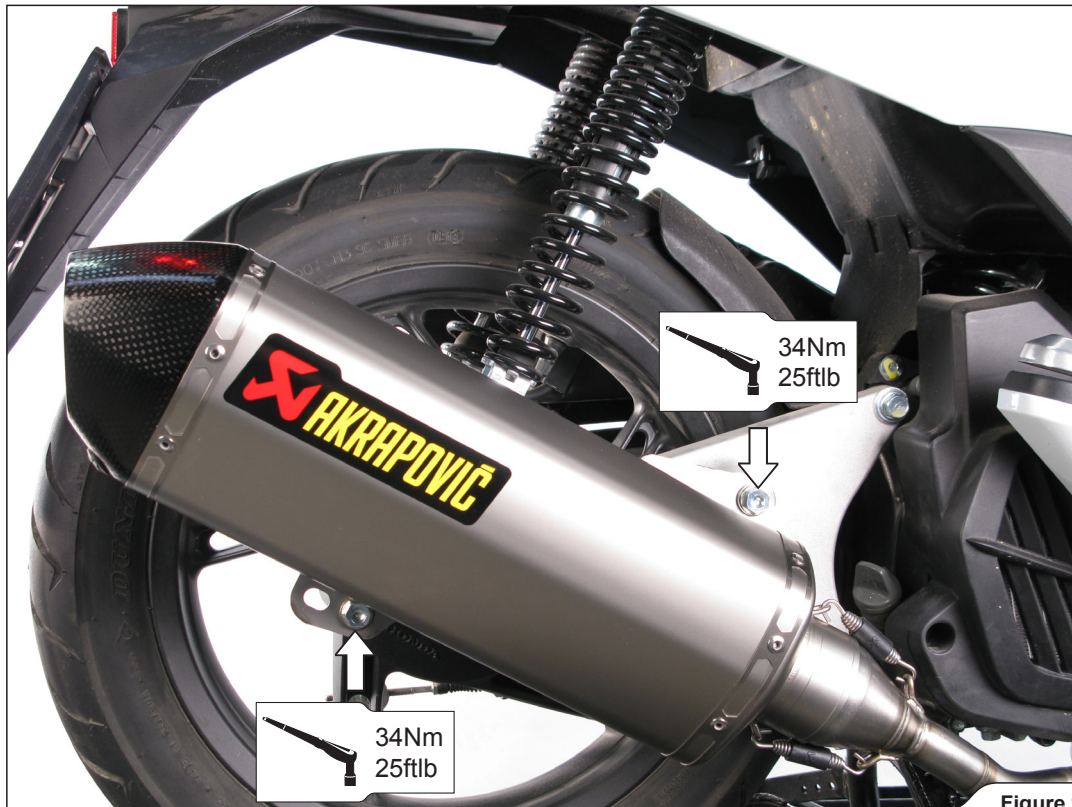

Figure 9
4. Tighten the muffler's bracket bolts to the specified torque (**Figure 9**).